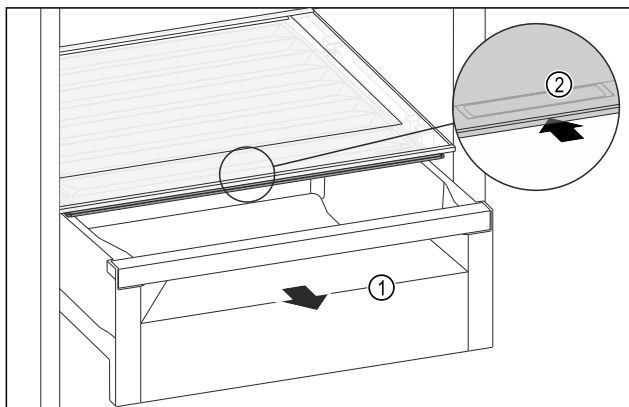

Fig. 85
- ▶ Pull out the drawer Fig. 85 (1).
- ▶ Grasp the recessed grip Fig. 85 (2) on the compartment lid and push the compartment lid backwards at the same time.